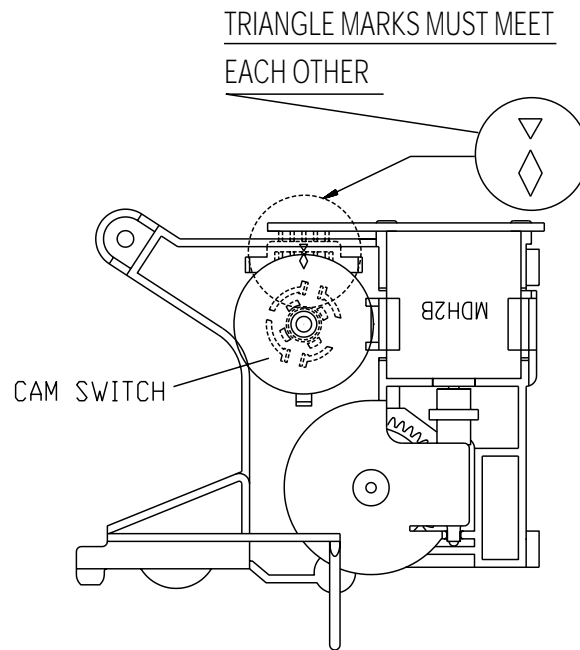

Fig.4-3 DATUM POSITION OF CAM SWITCH TRIANGULAR MARKS
c. When reassembling the L/C BRACKET TOTAL ASSEMBLY on the MAINBASE, make sure that the two triangular marks of CAM SWITCH are aligned with each other as shown in Fig.4-3.